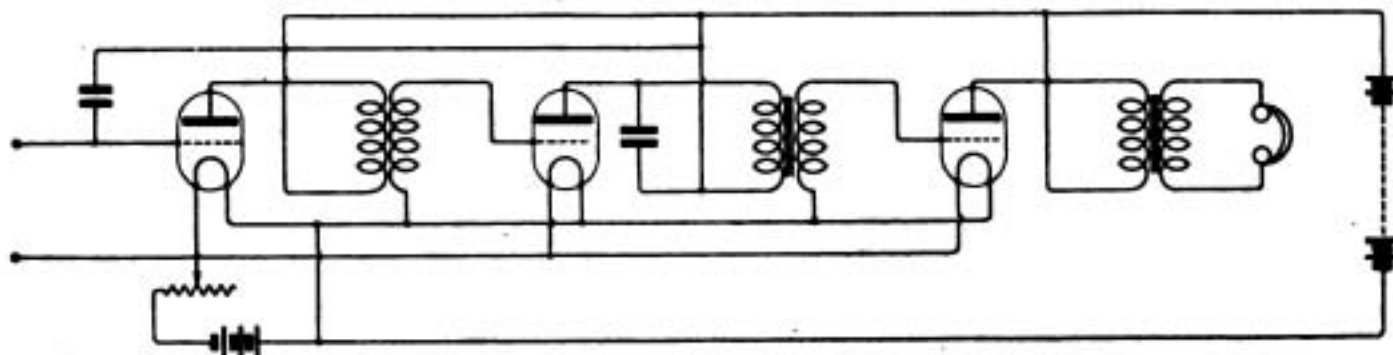

Fig. 1.
**C.E.G.B. (Kensington).**—(1) See diagram, Fig. 1.
(2) It will be less trouble, and the results will be almost as good if a single wire aerial the full length is used.
(3) No.
(4) Do not use the 0.008 mfd. condenser across the reaction coil. Connect 0.002 mfd. across the transformer winding in the reaction circuit instead. On the 4' frame use 40 turns of No. 22, and make a frame about 1' square for the reaction. Wind it with about 100 turns of No. 24. With a frame aerial you will probably get better results with 2 H.F. magnifiers and a rectifier, instead of 1 H.F. and 1 L.F. magnifier.
**PERPLEXED (Newcastle).**—(1) The symptoms are rather puzzling. They do not appear explicable in terms of low frequency induction, as from electric light or power leads. We are inclined to think the noise is due to intermittent oscillation at critical reaction settings due to the absence of a condenser across the telephones, and possibly the presence of a small leak across the windings of the telephones. Introduce a condenser, and if this does not cure the trouble write us again, in particular mentioning whether you can change the pitch of the roar by altering the tune of the set.
**R.W.J.P. (Greenwich).**—(1) A 12" with two V24's is no good at all. Make a 4' frame and wind with about 50 turns of No. 24, with several tapplings. Use three valves at least.
**F.D.C. (Bristol).**—(1) You may have a difficulty in making a 200 m. valve set oscillate, especially if the circuit used is that given in Fig. 1 in the article in question. Better results will probably be given with a separate reaction coil. Try a 5 cm. former wound with 5 cms. of No. 20. Separate reaction coil should be 4 cms. diameter, wound for 5 cms. with No. 26.
(2) The power input to a valve is usually taken to be the input to the anode circuit, i.e., anode volts X anode current. Therefore, for a voltage of 100 a power of 10 watts would be given by a current of 100 milliamps. In practice, if small valves of receiving type are used, giving a plate current of 5—10 milliamps each, a good number would be required to give the full 10 watts allowed.
(3) Probably about 5 miles telephony and 15 miles C.W.
(4) No, it will not work satisfactorily. Use a buzzer, buzzing through a transformer in the grid circuit.